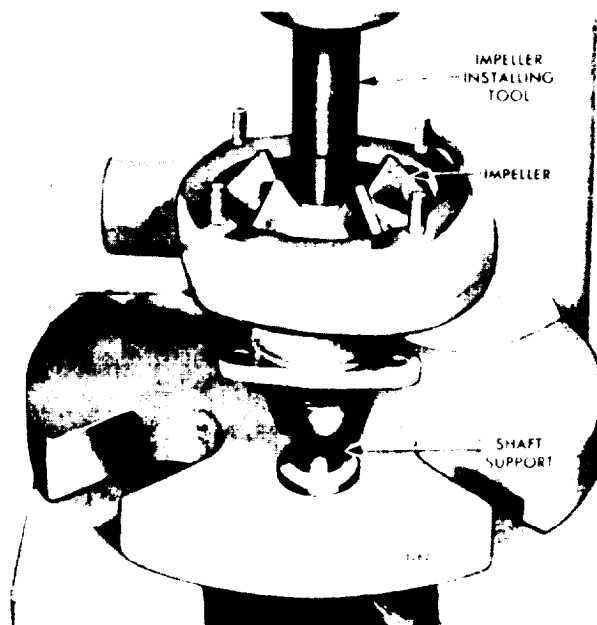

Figure 11F-7. Installing Pump Impeller
5. Support the bearing end of the shaft on the bed of an arbor press. Then press the impeller on the shaft using tool J 22437, Figure 11F-7. Do not press against the outer race of the bearing. The distance between the end of the shaft and the face of the impeller hub is 0.031"-0.033", with the bearing held against the shoulder in the pump body (see Figure 11F-8 on page 11F-9).